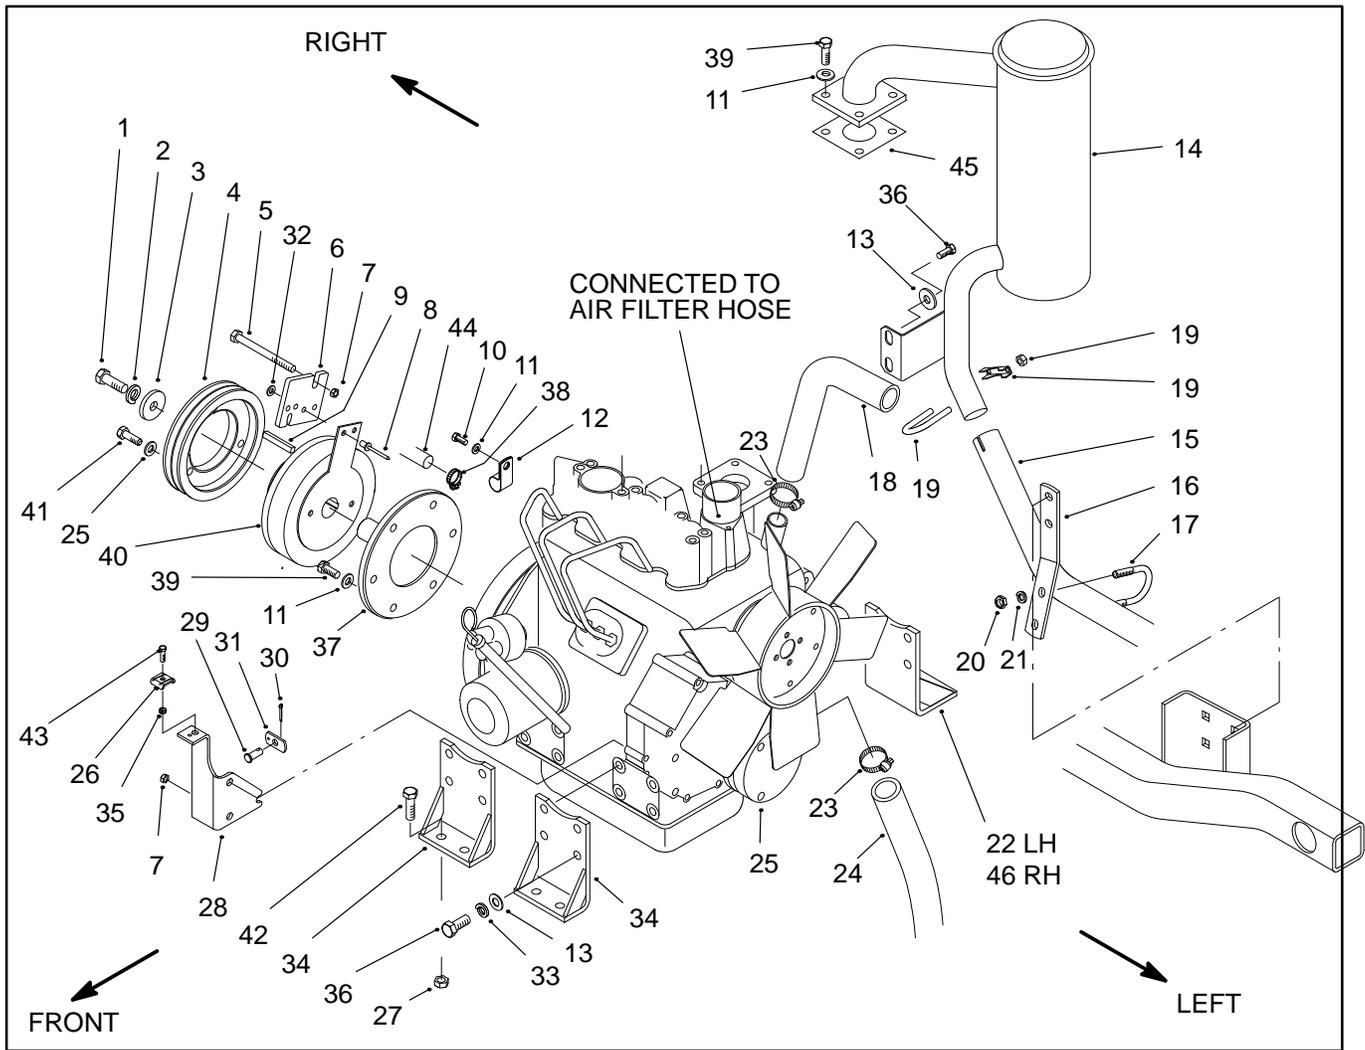

Figure 19
10. Disconnect hoses from engine (Fig. 19).
- B. Loosen hose clamps (23). Disconnect upper radiator hose (18) and lower radiator hose (24) from the engine.
- C. Loosen hose clamp (38) and disconnect fuel hose (44) from the lift pump. Plug hose to prevent leakage.
12. Remove exhaust system (Fig. 19).
- A. Remove muffler clamp (19) from the muffler (14) and muffler tube (15).
- B. Loosen nut (20) and U-clamp (17). Separate muffler tube from muffler and slide muffler tube through U-clamp.
- C. Remove cap screws (36) and washers (13) from the muffler and right rear mount bracket (46).
- D. Remove cap screws (39) and flat washers (11) from the muffler and exhaust manifold. Remove muffler and muffler gasket (53) from the engine.
13. Disconnect throttle cable (Fig. 19).
- A. Loosen cap screw (43) enough to separate the throttle cable from the throttle cable clamp (30).
- B. Remove cotter pin (30) from clevis pin (29). Remove clevis pin, throttle tab (31), and throttle cable from the engine governor lever.
14. Disconnect electrical connections (Fig. 19).
17. Remove engine (Fig. 19)
3. If mount brackets (22, 34, and 46) were removed re-install them as follows (Fig. 19):
A. For front mount brackets (34), secure brackets to the engine (25) with cap screws (36), lock washers (33) and washers (13). Torque cap screws from 34 to 42 ft–lb (4.7 to 5.8 kg–m).
B. For left rear mount bracket (22), secure bracket to the engine (25) with two cap screws (36), lock washers (33) and washers (13) through the left holes. Leave the right holes open for the muffler. Torque cap screws from 34 to 42 ft–lb (4.7 to 5.8 kg–m).
C. For right rear mount bracket (46), secure brackets to the engine (25) with cap screws (36), lock washers (33) and washers (13). **Leave cap screws loose enough so that the position of the bracket can be adjusted after the engine is installed.**